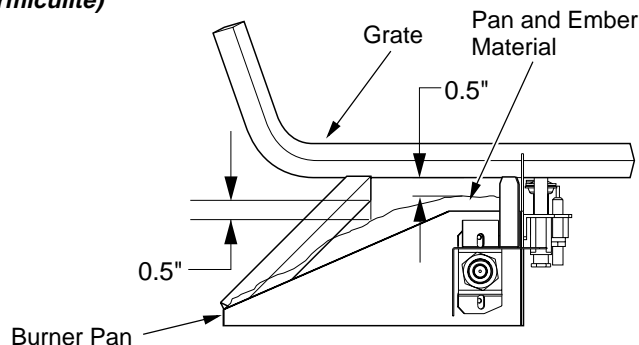

Figure 22 - Pan and Ember Material Clearances
4. Place just enough to cover the entire surface and leave about a 1/2 inch gap under the lower grate members to allow air to flow (see Figure 22).